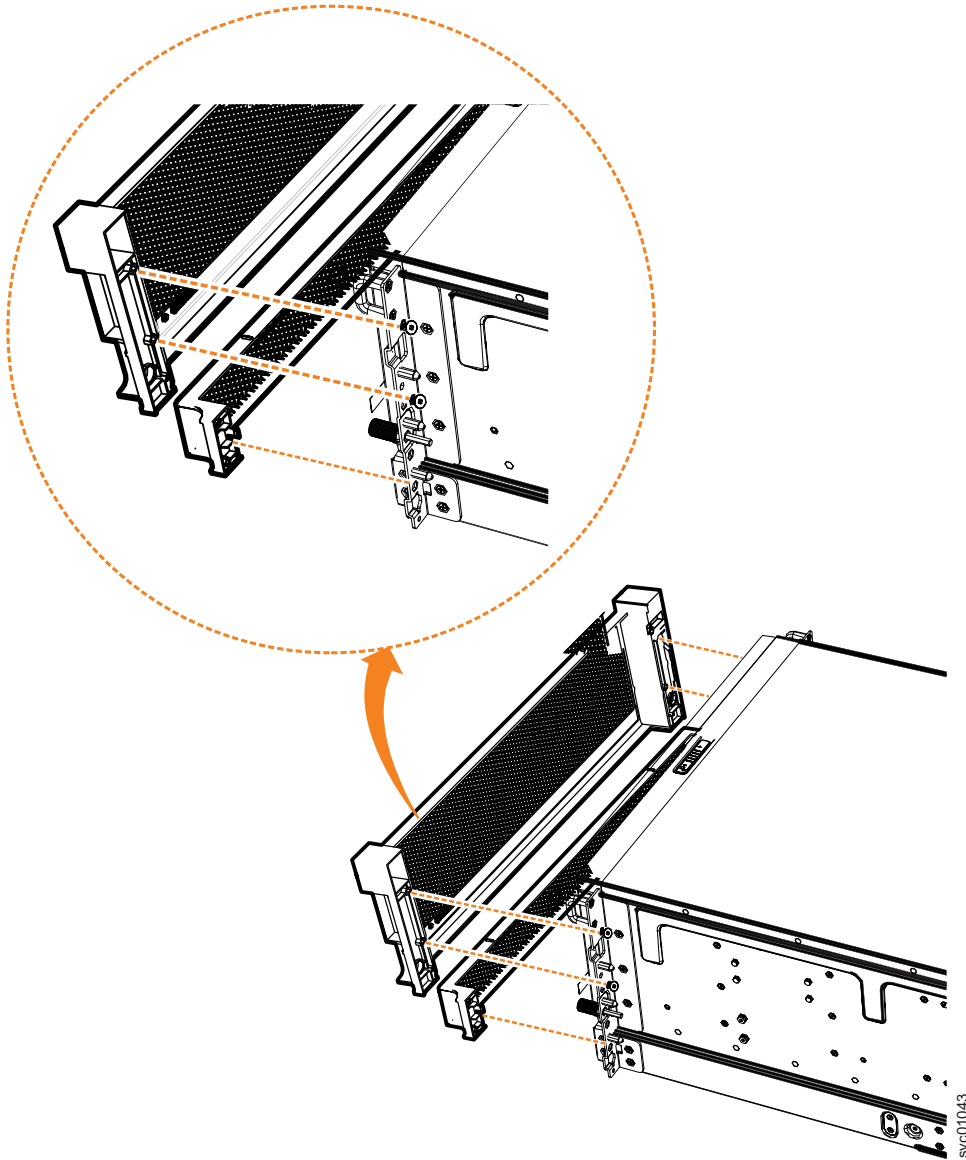

Figure 71. Replace fascia components on the expansion enclosure
2. Align the front 4U fascia with the enclosure so that the thumbscrews go through the holes on each side. As Figure 71 on page 74 shows, this action aligns the screw holes on the back of the fascia with the screw holes on the front flange of the enclosure.
4. Reattach the bottom 1U fascia that covers the power supply units (PSUs). Align the fascia with the enclosure and gently push it until it clicks into place on the chassis, as shown in Figure 71 on page 74.